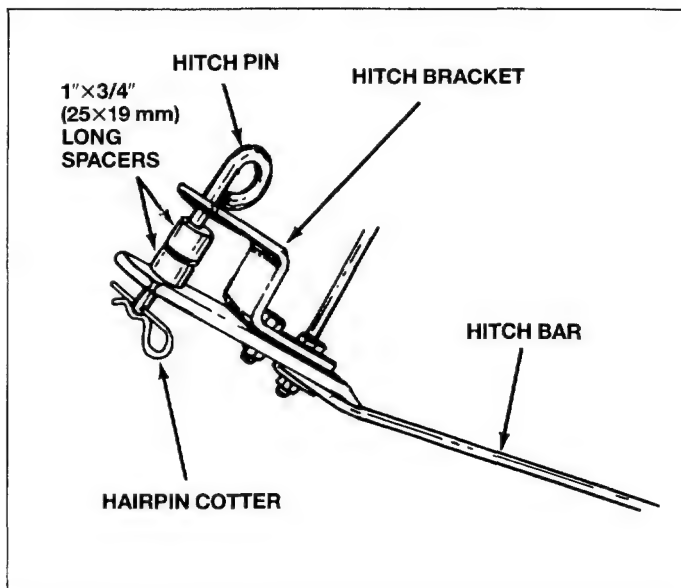

Fig. 11
12. Assemble the hitch pin, two $1"$ Dia. $\times 3/4"$ (25×19 mm) spacers and hairpin cotter to the hitch bracket and hitch bar. See figure 11.